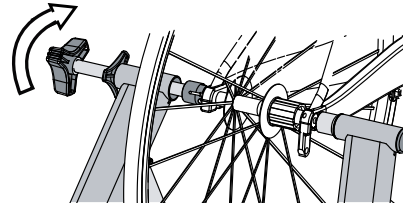

Figure 1
- On the left hand side, rotate the adjustment bolt anticlockwise to allow sufficient room for your bicycle to be inserted. See figure 1.